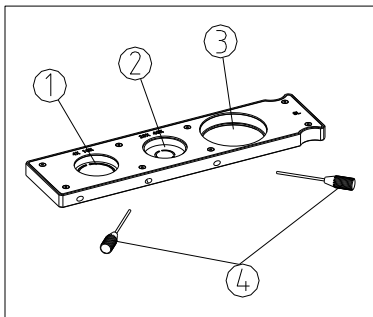

Fig. 35
(1) Since the light loop center is not preset, use the phase center adjusting rod (4) to adjust center. (See Fig. 35)
(2) Light loop (1) and (2) are be used with the same magnification phase contrast objective (e.g. 10X phase contrast objective matches to 10X light loop), hole (3) is to be used as a color filter stand for $\Phi 45\text{mm}$ color filter.
(3) Assemble way refer to 2-2-4.